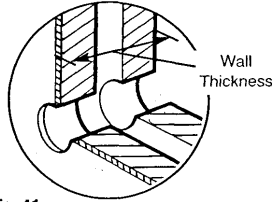

Fig. 41
2. Measure the thickness of the wall from the inside. This will be known as Wall Thickness (Fig 41).